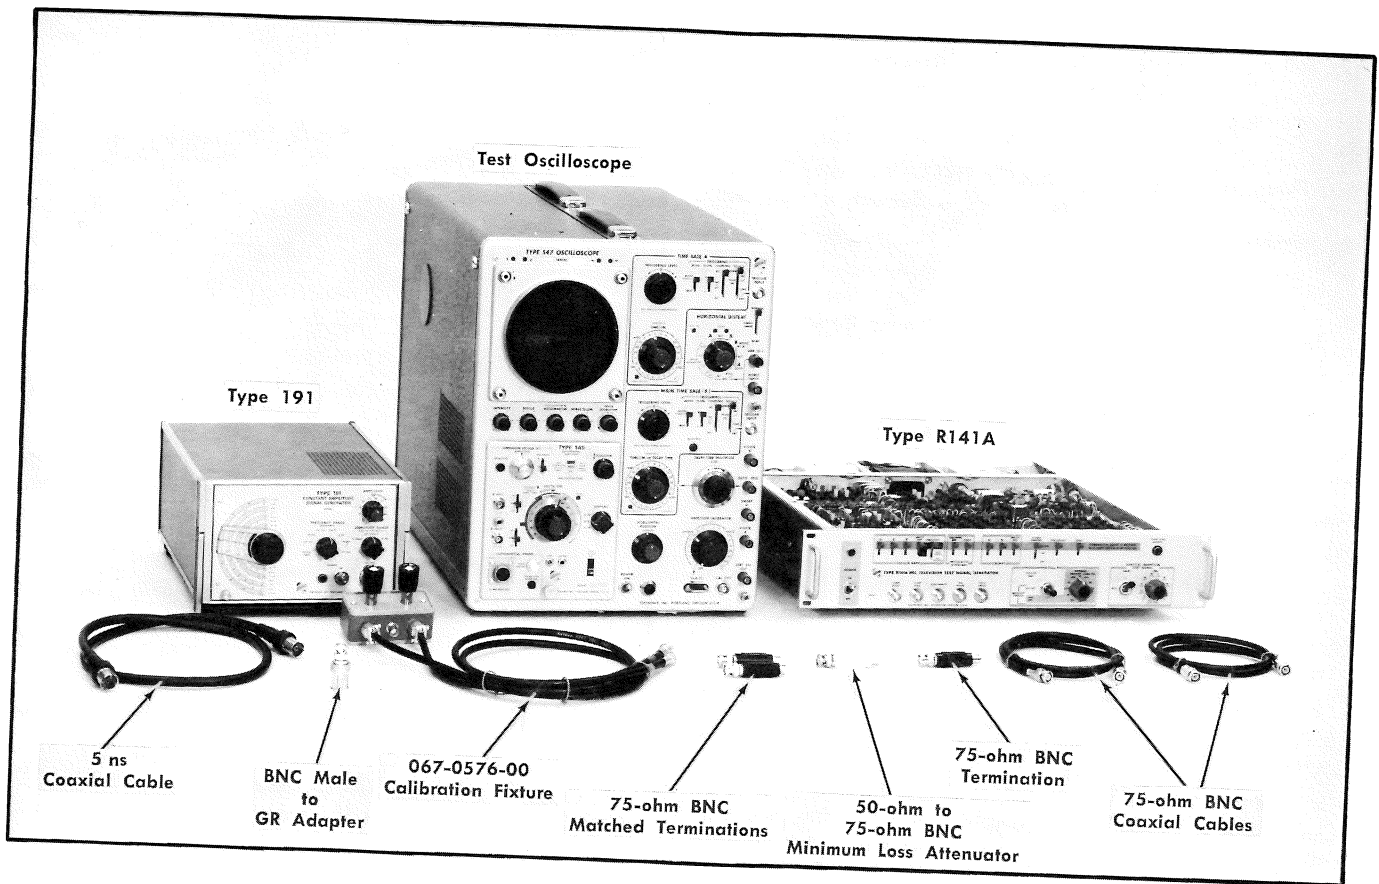

Fig. 5-49. Test equipment required for steps 37 through 39.
- Test equipment is shown in Fig. 5-49.